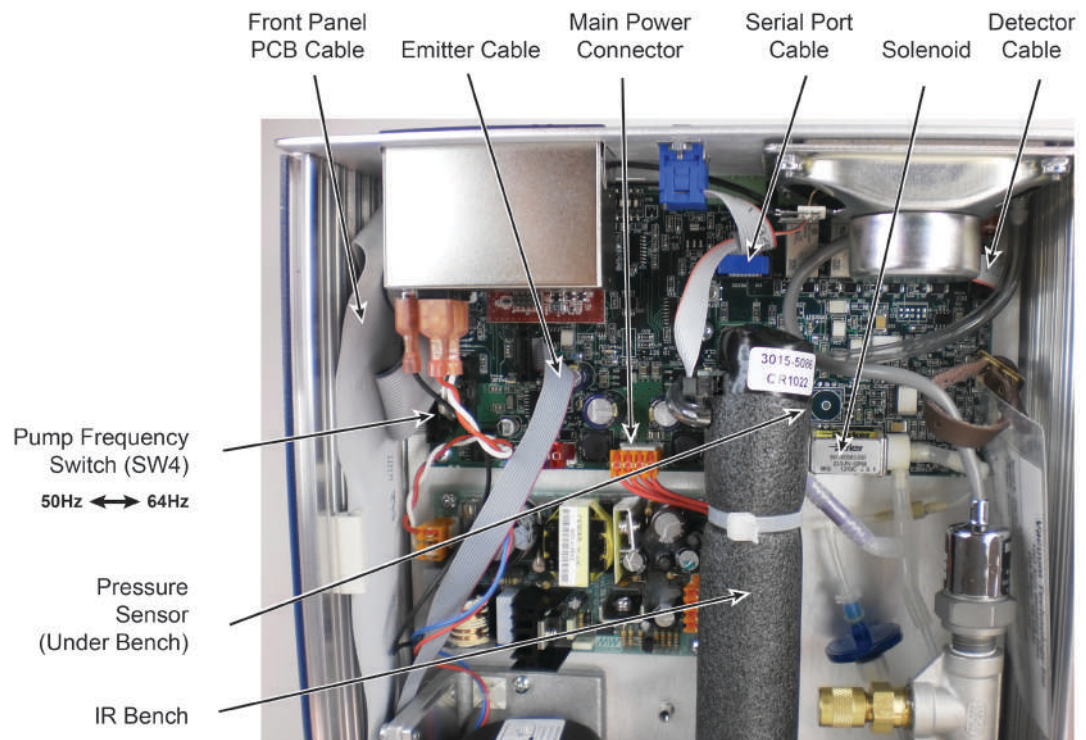

Figure 5. H25-IR Components
- Take time to familiarize yourself with the internal components. Figure 5 is a diagram of the H25-IR interior.